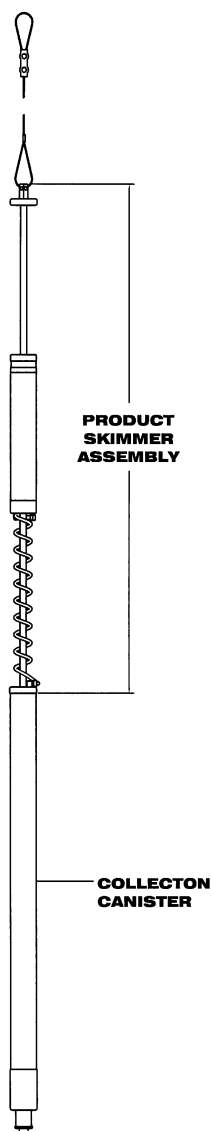

Figure 1-1: 2" PRC Skimmer Assembly
A PRC consists of two (2) major components; a product skimmer assembly and a collection canister (as shown in Figures 1-1 through 1-3). On the 4" model, the skimmer assembly is protected by a slotted screen which pre-filters the incoming product and protects the intake assembly from damage. The skimmer assembly collects free product and passes it through a coiled hose to the collection canister. Recovered product is evacuated by removing the PRC from the well and opening the drain on the bottom of the device.